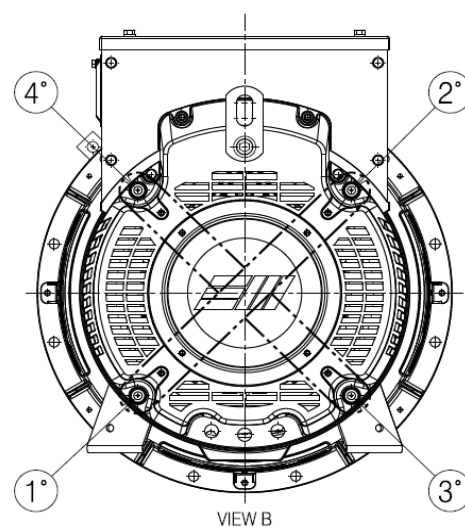

Figure 6-5
9. Tighten the nuts using the cross pattern (see Fig. 6-5 and 6-6 tightening sequence) and with a gradual increase in tightening torque: